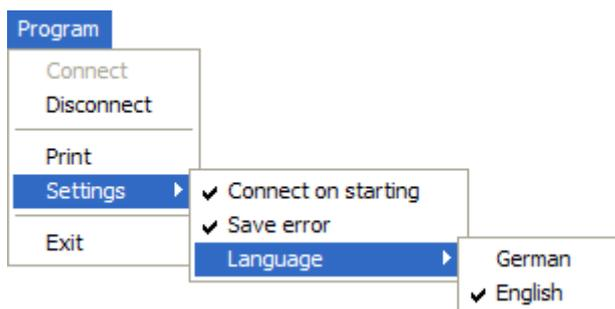

Fig. 13: Menu program
1. – Opening menu “Program”. Continue Fig. 13.